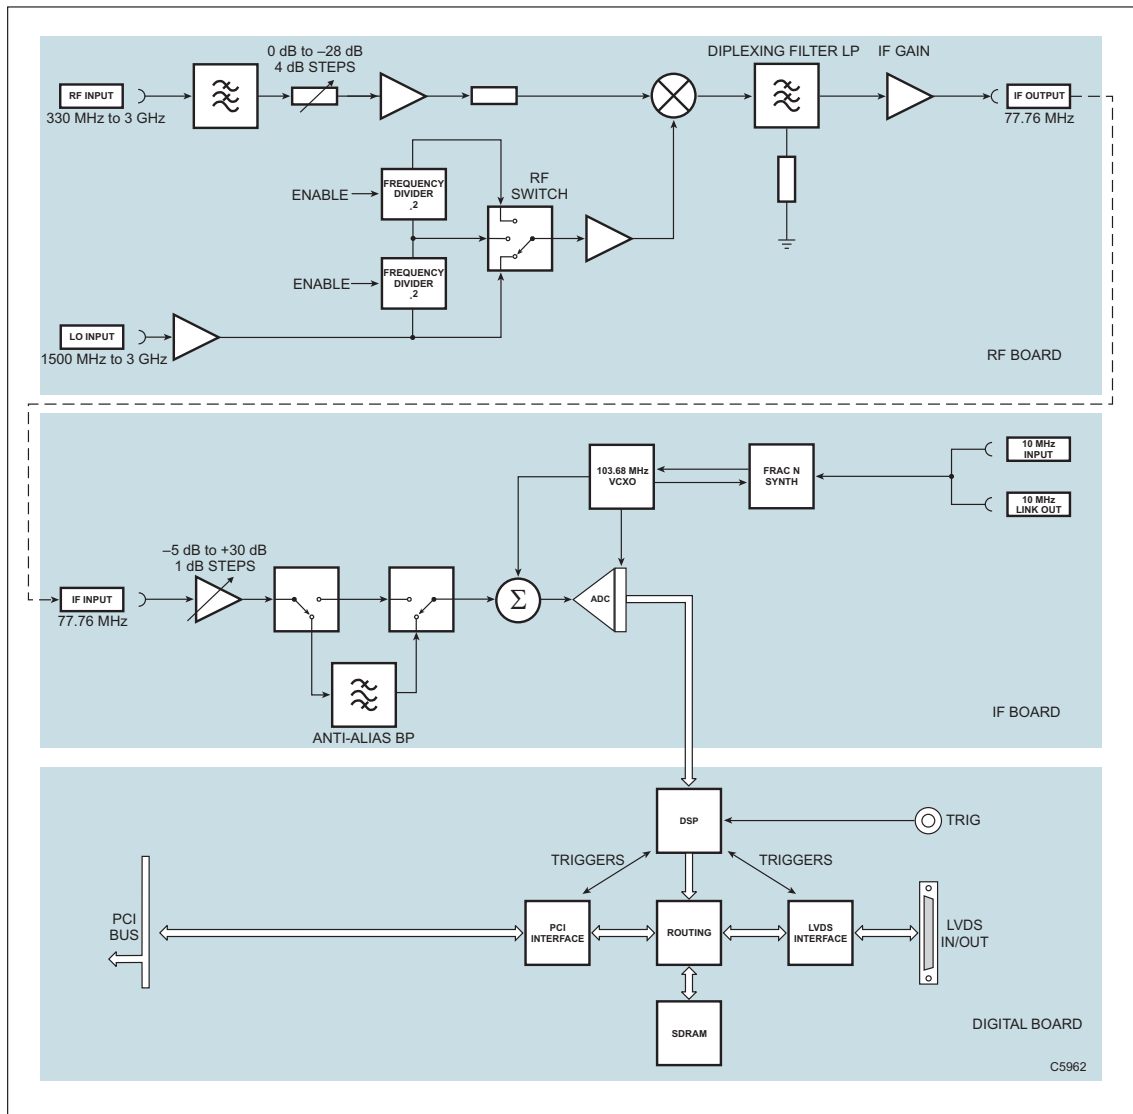

Fig. 4-1 Block schematic diagram
3030A is a three-board design occupying two slots in the backplane. The first board is a single stage RF downconverter to IF, with an input attenuator and output gain. It must be used with an external local oscillator (LO) from a 3010 Series RF Synthesizer module or other RF source. The IF output is normally linked externally to the second board, which digitizes the input IF signal. It has switchable input gain, an anti-alias filter with bypass and a clock source. It outputs data to the third board, which provides all of the digital services required by the module, including the power supply, PXI interface, LVDS interface, memory and digital signal processing. A block schematic for the instrument is shown in Fig. 4-1.